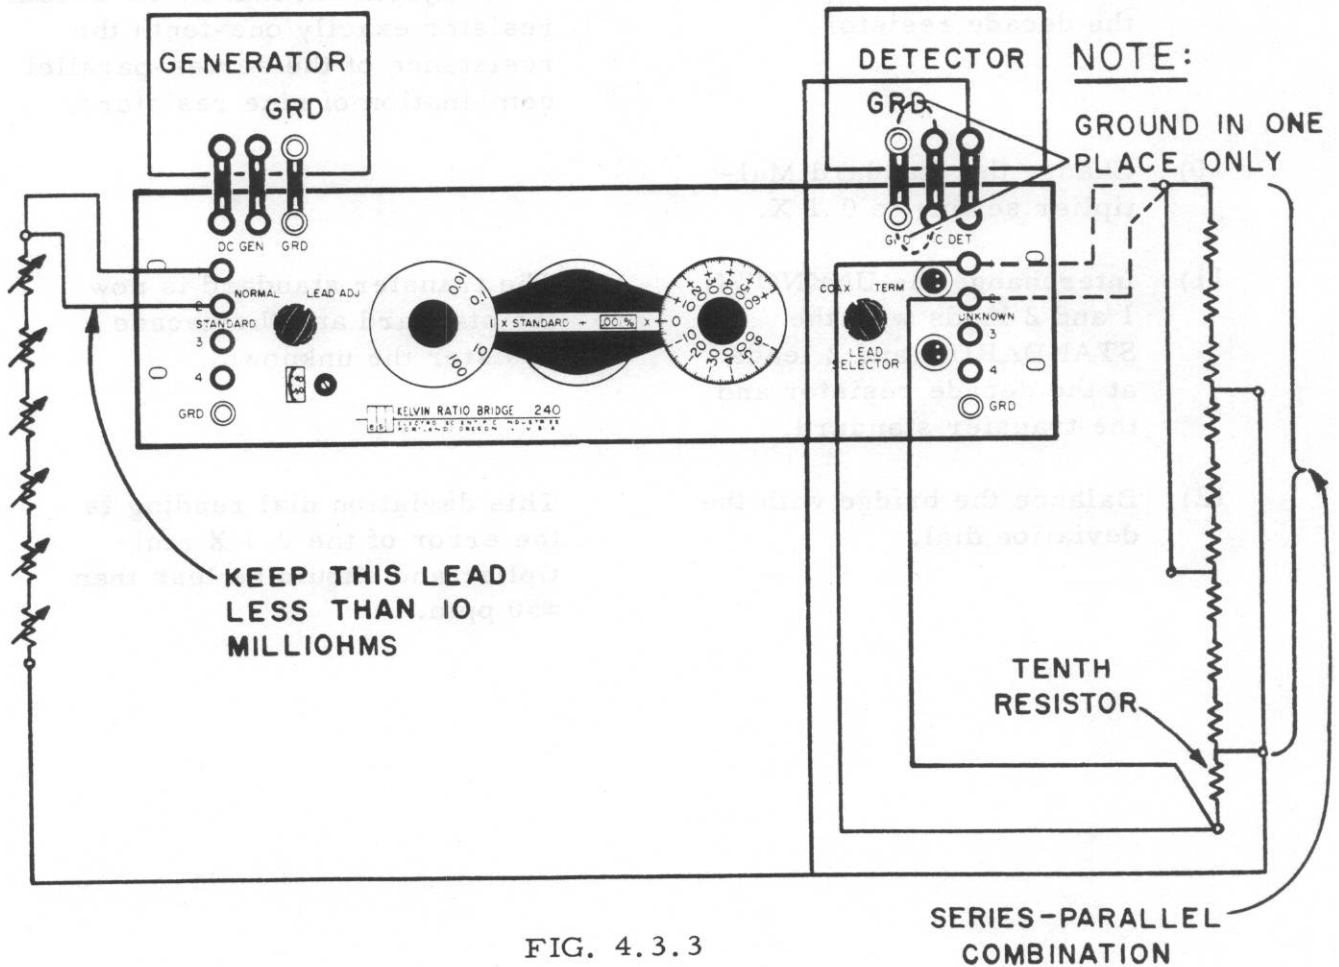

FIG. 4.3.3
- 3) Connect the tenth resistor (the one not included in the series-parallel combination) and the decade resistor to the bridge as shown by the solid lines in Fig. 4.3.3.